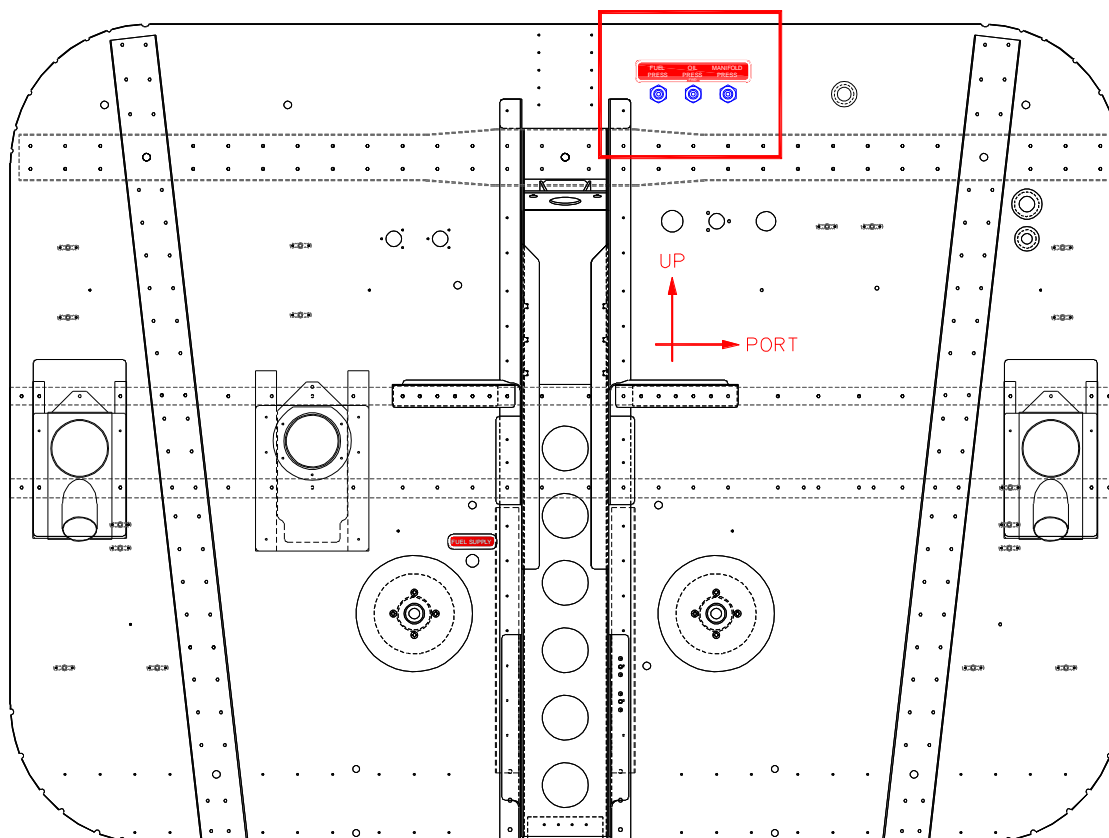

Figure 1: Area required for access. View looking aft at the forward face of the firewall.
2. In accordance with the applicable GA8 or GA8-TC 320 Service Manual, gain access to the forward and aft face of the aircraft's firewall identified in Figure 1.